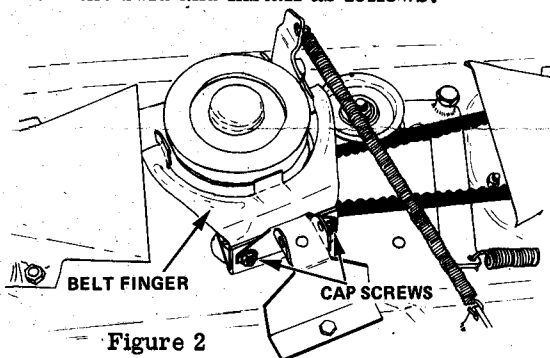

Figure 2
a. Remove the belt finger from the mower pan by loosening the two cap screws. See Figure 2.